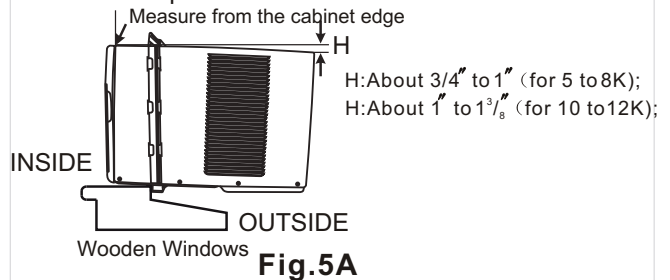
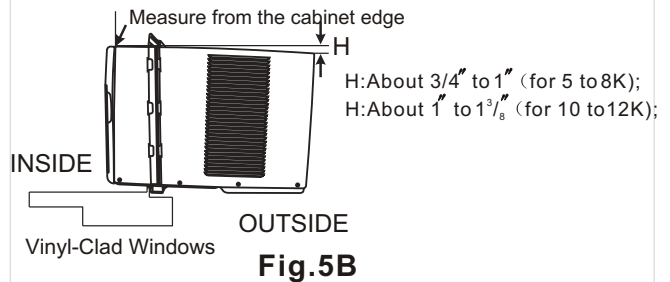

Fig.5A
Fig.5B
A. Keep a firm grip on the air conditioner, carefully place the unit into the window opening so the bottom of the air conditioner frame is against the window sill (Fig.5A and Fig.5B). Carefully close the window behind the top rail of the unit.
NOTE: Check that air conditioner is tilted back about H (Fig. 5A and Fig. 5B)(tilted about 3° to 4° downward to the outside).